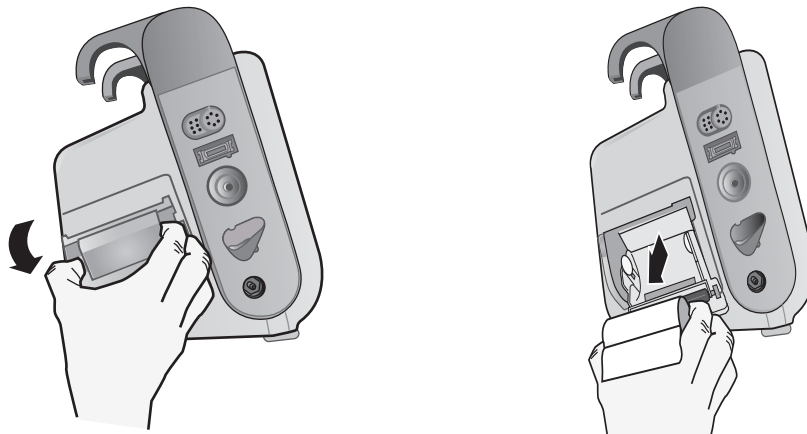

Figure 25-1. Opening the Printer Door and Removing Paper
1. Pull the printer door open (see Fig. 25-1), then remove any paper.